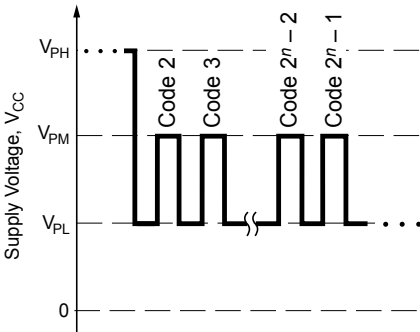

Figure 6. Try mode bit field addressing pulses
**Try Mode** In Try mode, bit field addressing is accomplished by applying a series of  $V_{PM}$  pulses to the VCC pin of the device, as shown in figure 6. Each pulse increases the bit field value for the selected parameter, increasing by one on the falling edge of each additional  $V_{PM}$  pulse. When addressing the bit field in Try mode, the quantity of  $V_{PM}$  pulses is represented by a decimal number called the *code*. Addressing activates the corresponding fuse locations in the given bit field by increasing the binary value of an internal DAC, up to the maximum possible code. As the value of the bit field code increases, the value of the programmable parameter changes. Measurements can be taken after each  $V_{PM}$  pulse to determine if the required result for the programmable parameter has been reached. Cycling the supply voltage resets all the locations in the bit field that have un-blown fuses to their initial states.